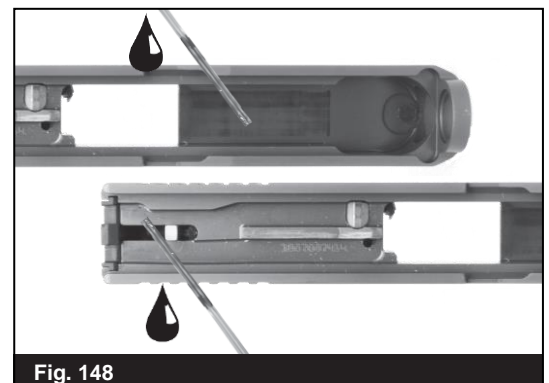

Fig. 148
- Slightly dampen a clean patch with gun oil or cleaner-lubricant-preservative and wipe the exterior surfaces of the slide. (Fig. 148)